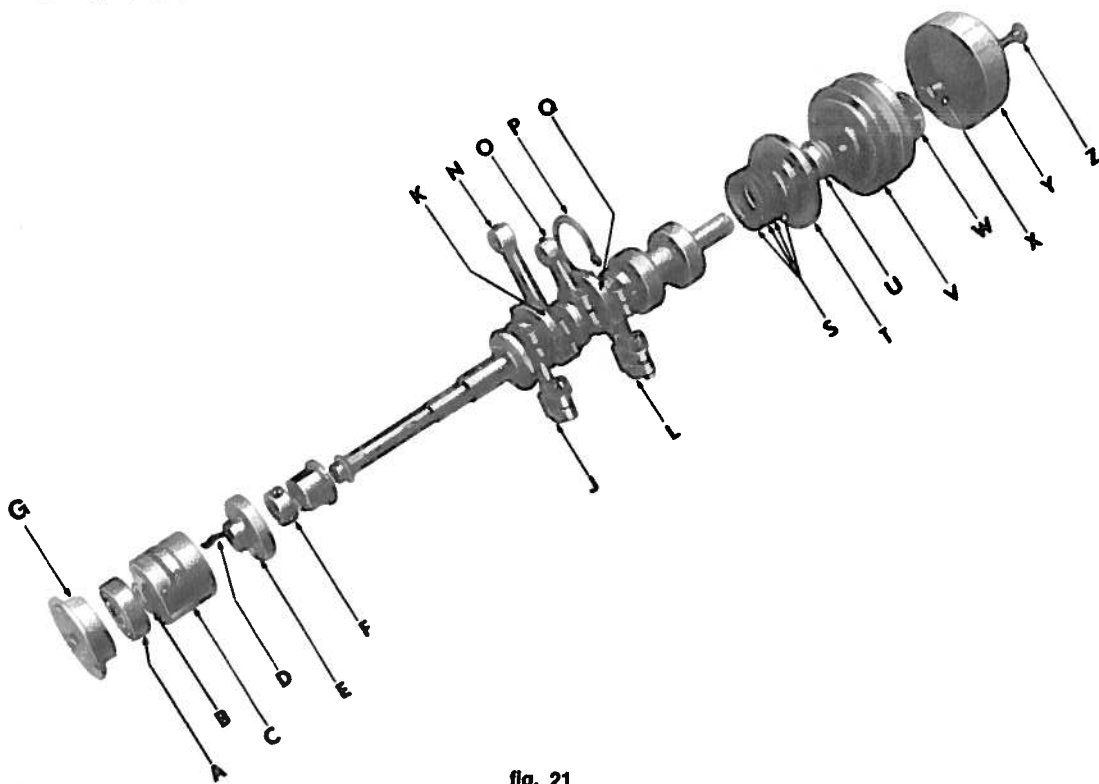

fig. 21
- Tighten the tension discs (fig. 21) sufficiently as to permit a regular stitch formation.